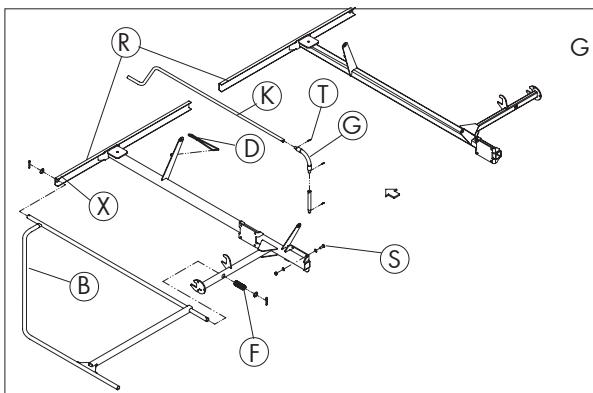

Fig. 3-20
Using a crane, bring the frame (R) up to the Helipede Rotary Windrower and fasten it to the head of the gearbox using the screws (S) (fig. 3-20).